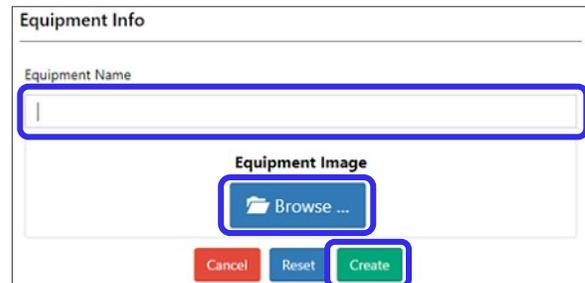

Figure 61: Create new equipment
2. In the Equipment Info section (Figure 61) enter the information for the equipment.